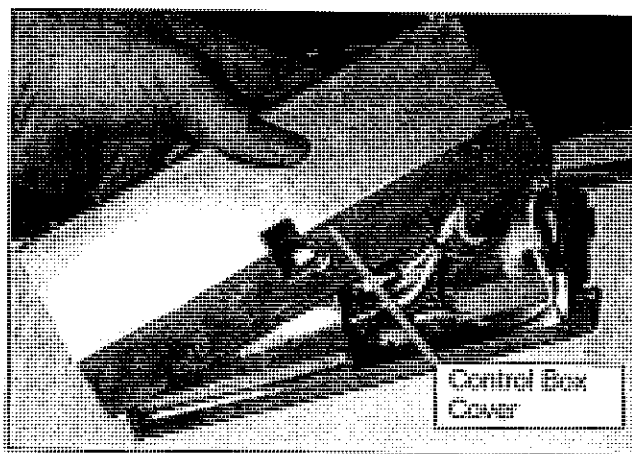

Figure 3-17 Water Cover Removal
- e. Gently lift the water cover off of the control box. (See Figure 3-17.)